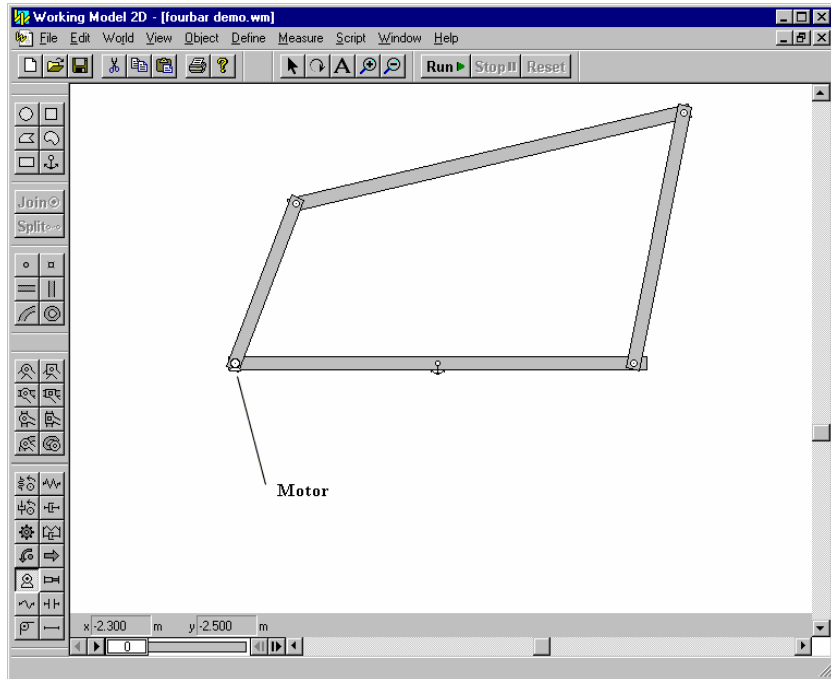

Figure 13. Building a fourbar linkage, Steps 13-14, modified to be Grashoff and motor driven.
13. Turn the linkage into a Grashof mechanism by stretching/shrinking the length of the right vertical link to the proportions shown in Figure 13. This is done by selecting the link and then dragging one of its handles (one of the four square boxes that appear at the corners of the link when it is selected) to the new dimension.
14. Drive the linkage by placing a motor  at the node connecting the (short) crank link and the grounded link, shown in Figure 13.